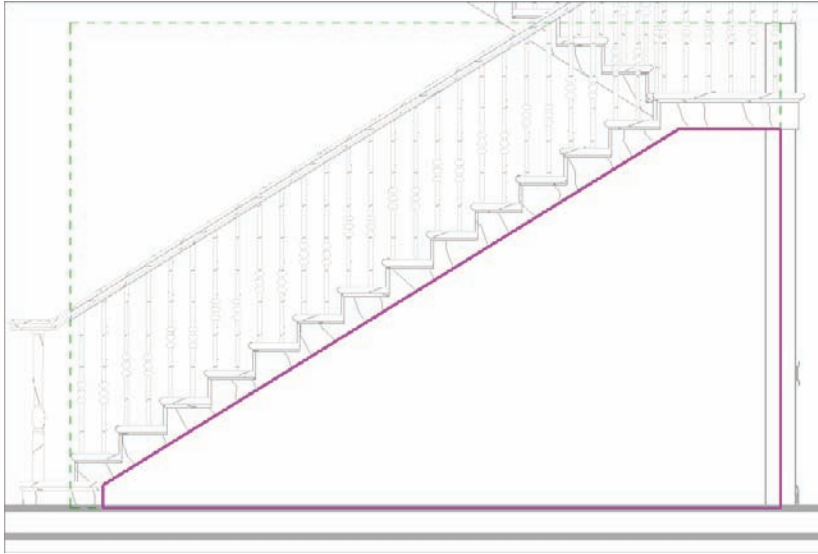

FIGURE 16.14 Cleaning up the lines so they form a continuous loop
8. Delete the existing top magenta line and the existing left magenta line by selecting them and pressing the Delete key. All you should have left is the profile shown in Figure 16.14.
9. Use the Trim/Extend Single Element command to clean up all the corners. Revit won't allow you to continue if you don't (see Figure 16.14).